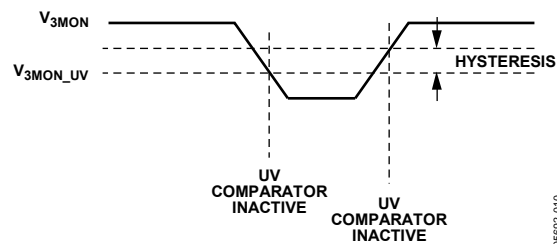
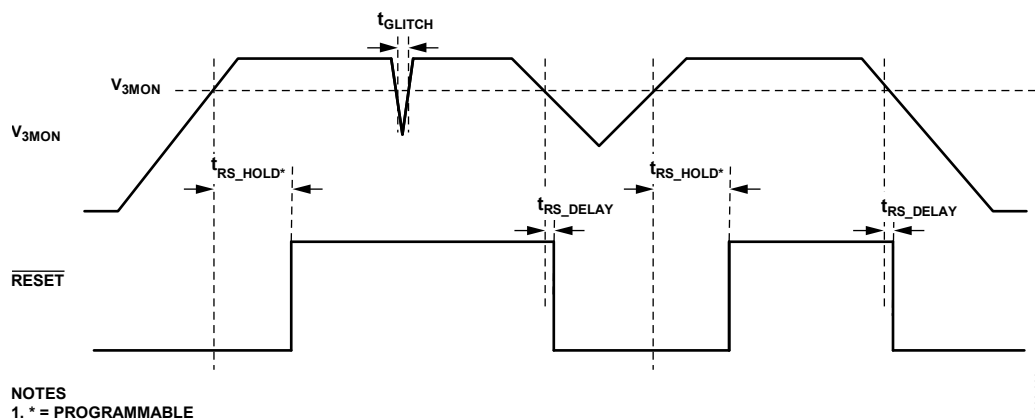

Figure 9.  $V_{3MON}$  Hysteresis
Figure 10.  $V_{3MON}$ ,  $\overline{RESET}$  Timing Diagrams
The  $V_{3MON}$  pin is monitored by a comparator to detect an undervoltage condition. It is designed with 1.5% hysteresis. When the  $V_{3MON}$  input drops below the programmed UV threshold, the comparator becomes active immediately, indicating that a UV condition has occurred. Due to hysteresis, the  $V_{3MON}$  input must be brought above the programmed UV threshold by 1.5% before the comparator becomes inactive, indicating that the UV condition has gone away (see Figure 9).
The  $V_{3MON}$  and  $\overline{RESET}$  timing diagrams are shown in Figure 10. The range of thresholds is shown in Table 6 and the programming code for the selected threshold is found in Table 7. The default monitoring threshold is 2.93 V. The range of reset hold times is shown in Table 8 and the programming code of the selected timing is found in Table 9. The default  $\overline{RESET}$  hold time is 200 ms.
- When the external monitoring processor cannot issue the necessary WDI signal and advanced WDI mode is selected (see Figure 10 and Figure 9)
- When  $V_{3\text{MON}}$  drops below the threshold (see Figure 10)